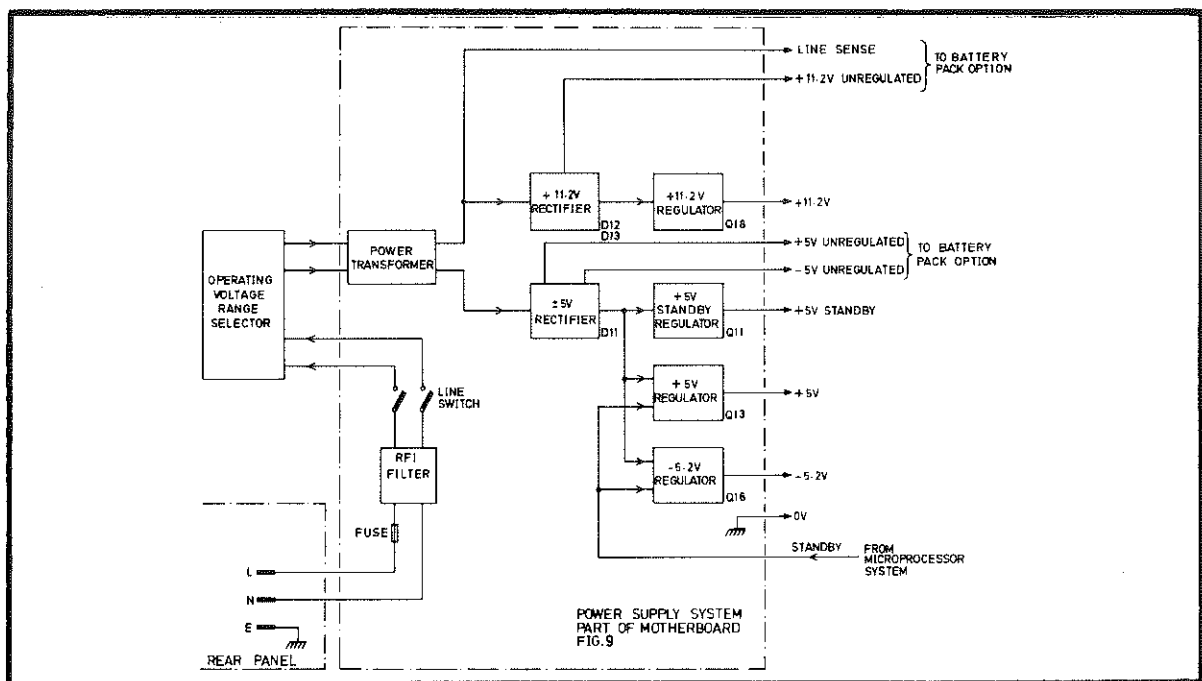

Fig 6.11 The Power Supply System
- 106 A block diagram of the system is given in Fig 6.11. The AC supply enters at a plug mounted on the rear panel, and passes via a fuse and RFI filter, mounted on the motherboard, to the line switch.